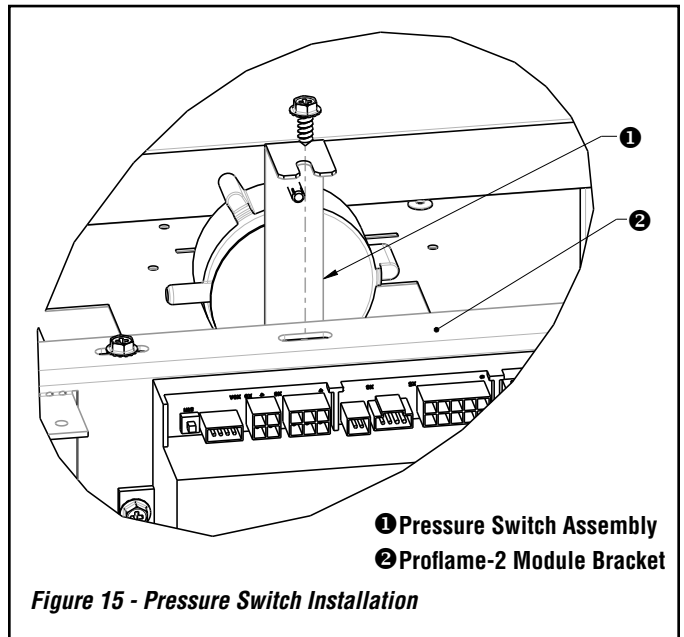

Figure 15 - Pressure Switch Installation
- 8.5 Install **pressure switch assembly** [#4] to bracket using the bracket mounting screw on the right (*Figure 15*).